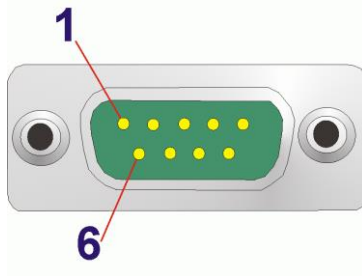
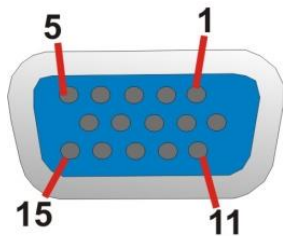

Figure 3-35: COM1 Serial Port Pinout Locations
Figure 3-36: VGA Connector
- CN Location:** See **Figure 3-35** and **Figure 3-36**